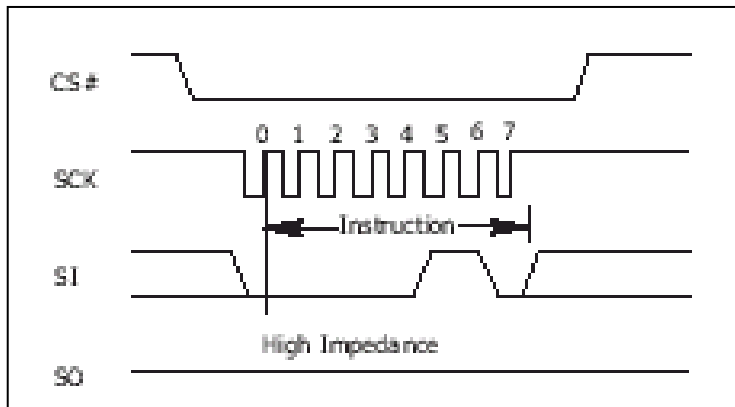

Figure 4 Write Enable (WREN) Instruction Sequence
The Write Enable (WREN) instruction (Figure 4) sets the Write Enable Latch (WEL) bit. The Write Enable Latch (WEL) bit must be set prior to every Page Program (PP), Erase (SE or BE) and Write Status Register (WRSR) instruction. The Write Enable (WREN) instruction is entered by driving Chip Select (CS#) Low, sending the instruction code, and then driving Chip Select (CS#) High.